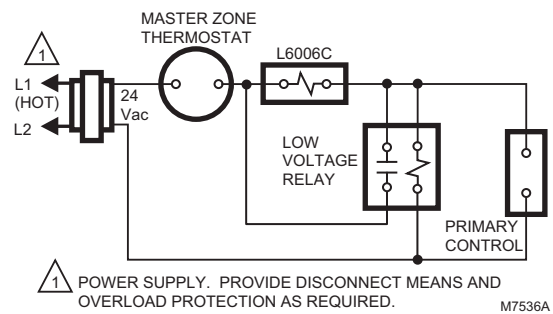

Fig. 23. Holding circuit for use with L6006 when verifying zero psig steam pressure.
4. Unscrew end cap (A) and remove cartridge from chamber (B). See Fig. 23.
1. Replace cartridge into chamber (B) and screw end cap onto VA8200A (A). See Fig. 23.